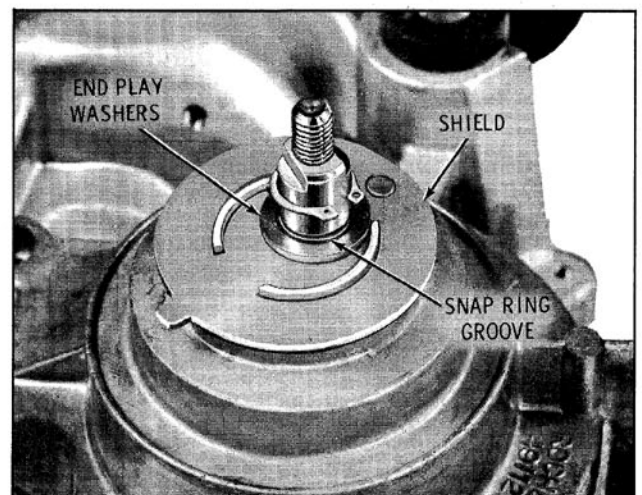

Fig. 13-141 Snap Ring Location
3. Remove the snap ring, end play washers, and shield. (Fig. 13-141)